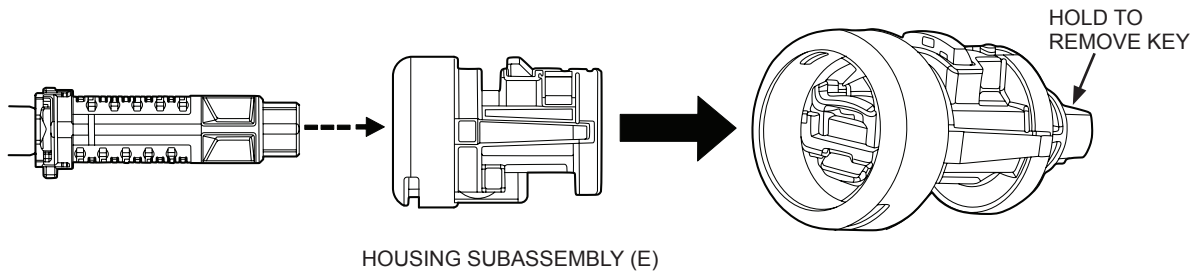

FIGURE 6
8. Slide the tumbled & greased Cylinder subassembly (D) inside the Housing (E) by rotating the cylinder counterclockwise until the stop is reached (Refer to Figure 6).
9. Hold the back part of the cylinder and carefully remove the key (Refer to Figure 6). Cylinder can get out of the housing at this point, if that occurs tumblers will fall out.